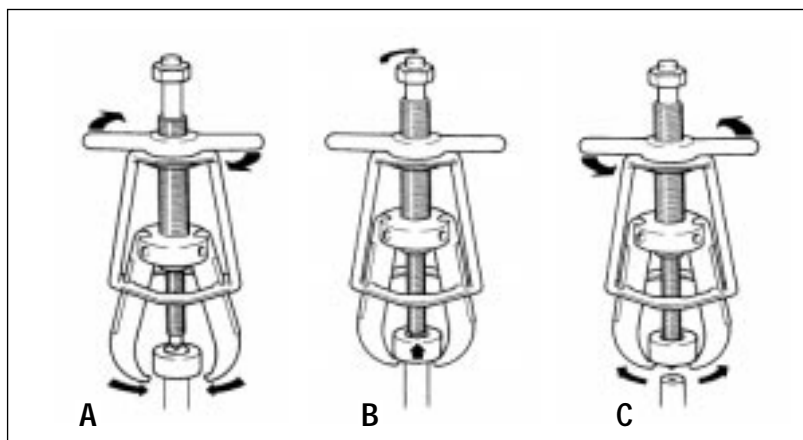

Fig. 3
4. Turn the T-Handle clockwise to tighten the jaw firmly onto the component. (Fig. 3 A)
5. Make sure that the center of the puller is aligned with the center of the component to be pulled. Using hand tools only, tighten the center bolt to pull the component off of its shaft. **Never exceed the maximum torque ratings of the puller's drive bolt.** (Fig. 3 B)
6. Turn the T-handle counter-clockwise to remove the puller from the component. (Fig. 3 C)